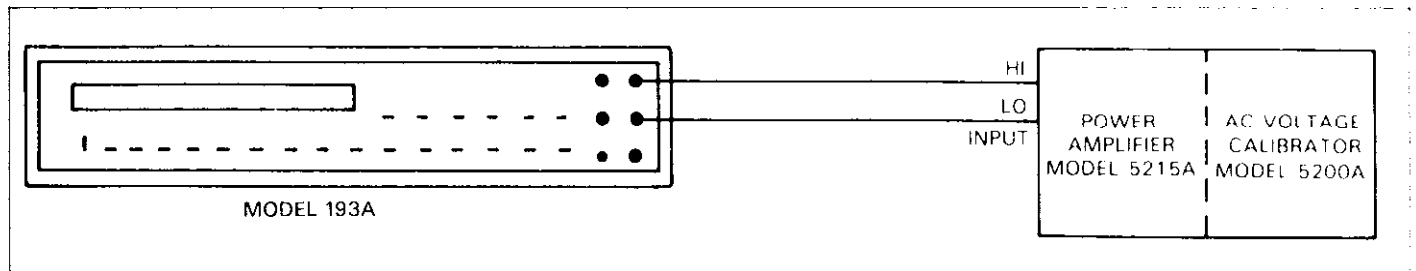

Figure 4-2. Connections for TRMS AC Volts Verification
2. Connect the AC calibrator to the Model 193A as shown in Figure 4-2.